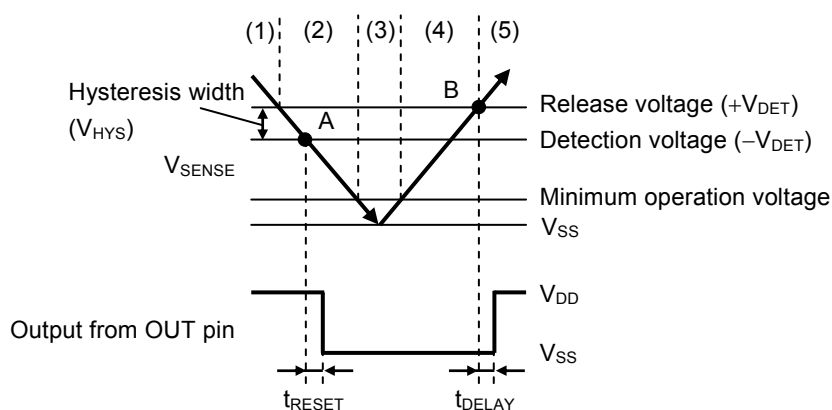
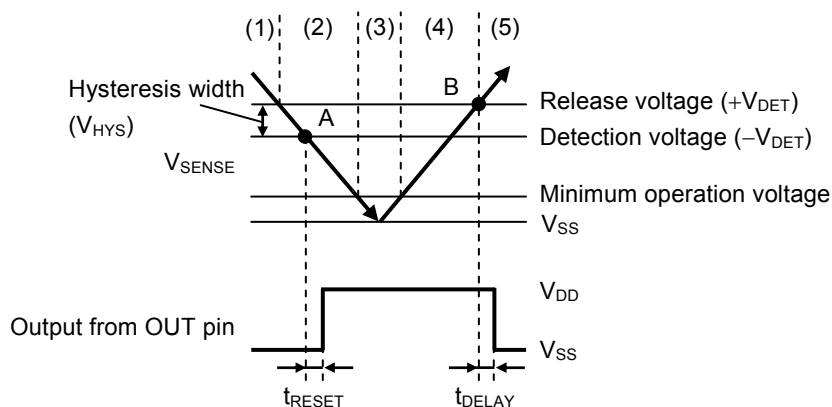

Figure 33 Timing Chart of S-19110 Series N Type
Figure 35 Timing Chart of S-19110 Series P Type
The hysteresis width is the voltage difference between the detection voltage and the release voltage (the voltage at point B – the voltage at point A = V_{HYS} in **Figure 25**, **Figure 27**, **Figure 33** and **Figure 35**). Setting the hysteresis width between the detection voltage and the release voltage, prevents malfunction caused by noise on the input voltage.
When V_{SENSE} decreases to $-V_{DET}$ or lower (point A in **Figure 33**), the Nch transistor is turned on. And then V_{SS} ("L") is output from the OUT pin after the elapse of the detection delay time (t_{RESET}).
- (3) Even if V_{SENSE} further decreases to the IC's minimum operation voltage or lower, the output from the OUT pin is stable when V_{DD} is minimum operation voltage or higher.
- (4) Even if V_{SENSE} exceeds $-V_{DET}$, V_{SS} is output when V_{SENSE} is lower than $+V_{DET}$.
- (5) When V_{SENSE} increases to $+V_{DET}$ or higher (point B in **Figure 33**), the Nch transistor is turned off. And then V_{DD} is output from the OUT pin after the elapse of the release delay time (t_{DELAY}) when the output is pulled up.
When V_{SENSE} decreases to $-V_{DET}$ or lower (point A in **Figure 35**), the Nch transistor is turned off. And then V_{DD} ("H") is output from the OUT pin after the elapse of the detection delay time (t_{RESET}) when the output is pulled up.
- (4) Even if V_{SENSE} exceeds $-V_{DET}$, V_{DD} is output when V_{SENSE} is lower than $+V_{DET}$.
- (5) When V_{SENSE} increases to $+V_{DET}$ or higher (point B in **Figure 35**), the Nch transistor is turned on. And then V_{SS} is output from the OUT pin after the elapse of the release delay time (t_{DELAY}).